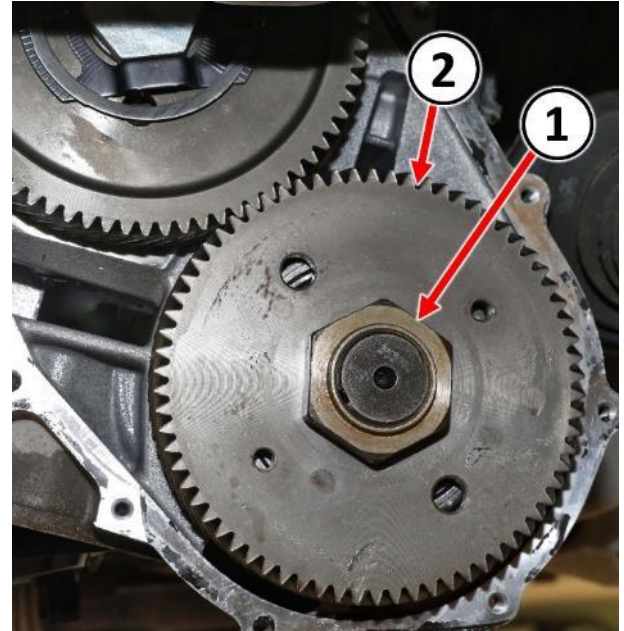

Figure 43 – Transfer Gear Nut
75. Obtain and install by hand a **NEW** nut for retaining the transfer gear to the underdrive shaft (Figure 43).